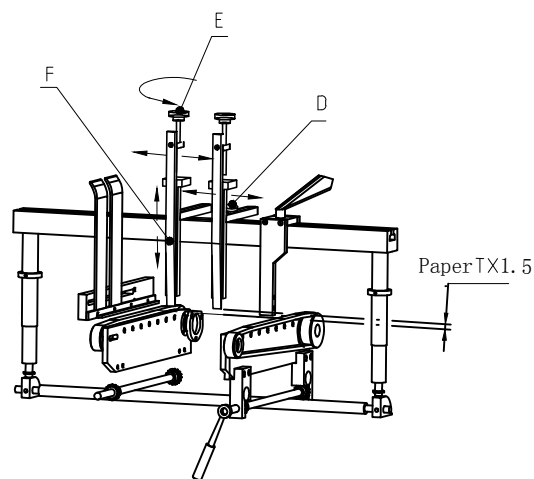

Fig 1-3
- ③ Loosen the retaining nut (D), move the paper feeding top knife subassembly to left/right, see Fig. 1-3. The overall position of each top knife subassembly should be at the middle of the machine. Under special situation, it should be decided according to the shape of the paper.
- ④ Turn the adjusting screw rod (E) to left/right, move the paper feeding top knife subassembly upwards/downwards, see Fig.1-3, the distance between the knifepoint of top knife and the paper feeding belt should be 1.5 times of paper thickness, see Fig.1-3. (Too large interval might cause multiple paper feeding at the same time).Paper T × 1.5 Fig.1-3